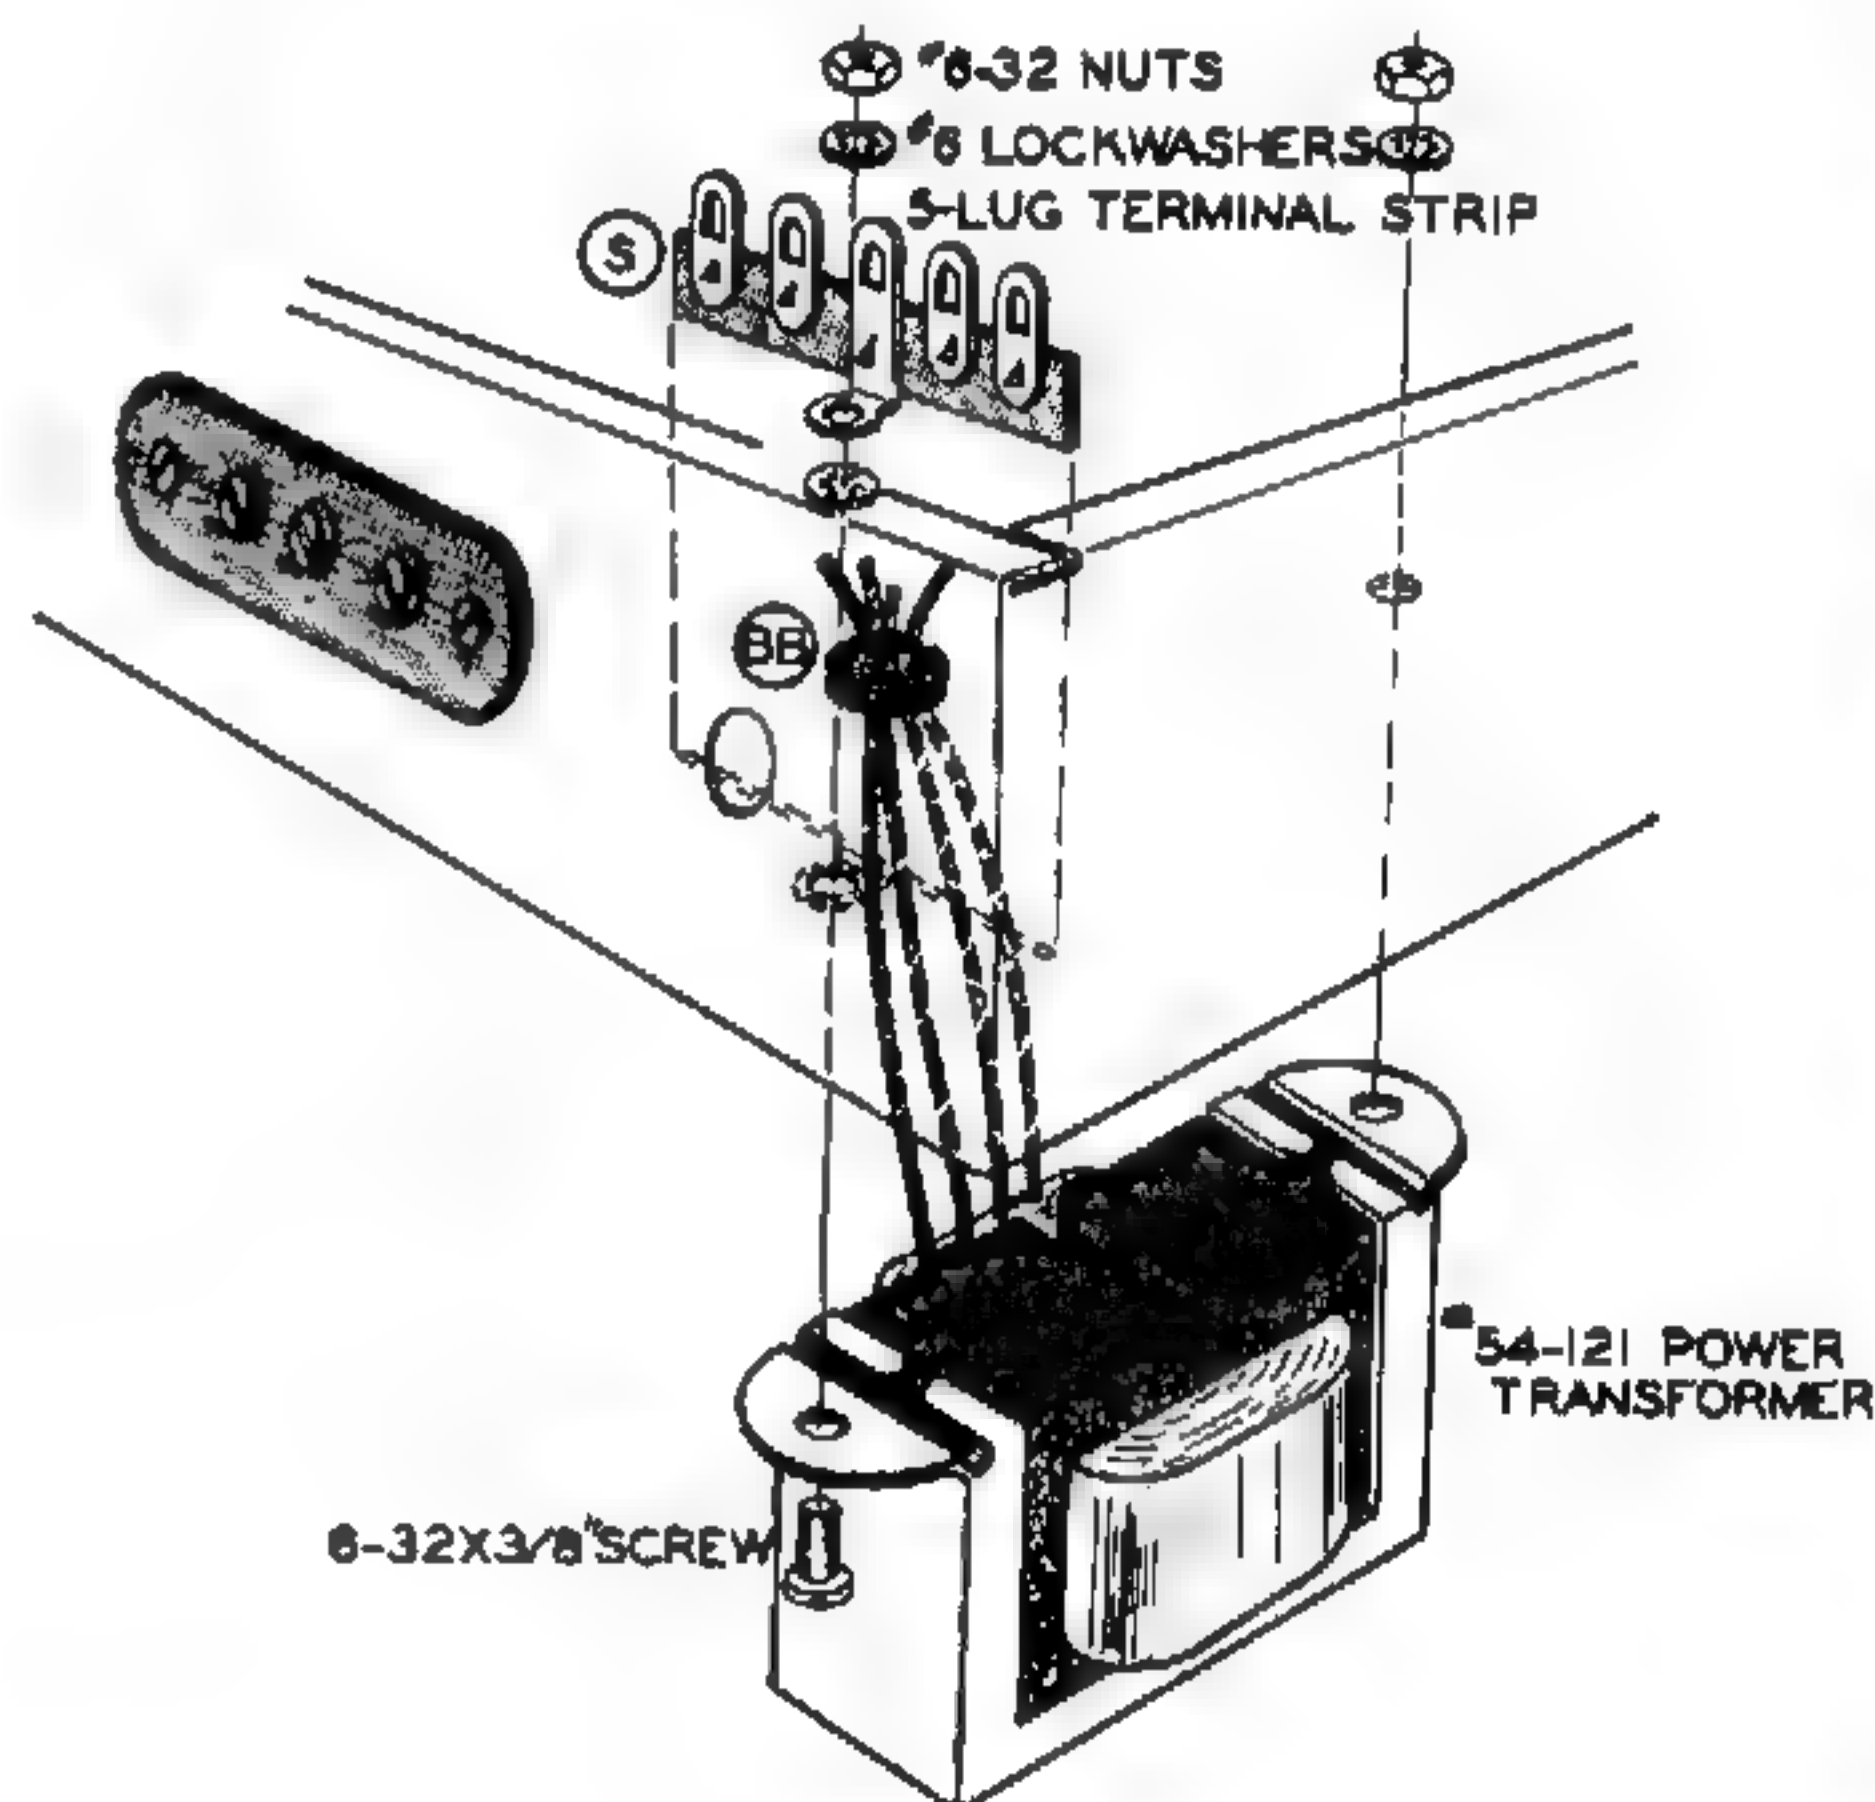

Figure 11
- (✓) T1. Mount the power transformer on top of the chassis at T1 (making sure all four leads go through grommet BB), and mount a 5-lug terminal strip at S under the chassis. Use two 6-32 x 3/8" screws, three #6 lockwashers, and two 6-32 nuts, as shown in Figure 11. Position the terminal strip as shown in Pictorial 1.